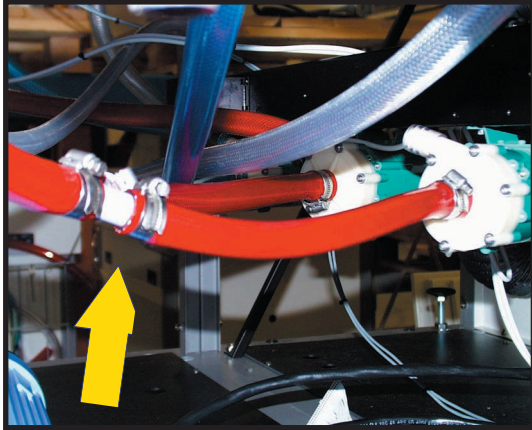

Fig. 5.
4) Install one Y adapter on the red inlet hose to the old pump, and connect it to the inlet of the new pump as shown at Fig. 5.